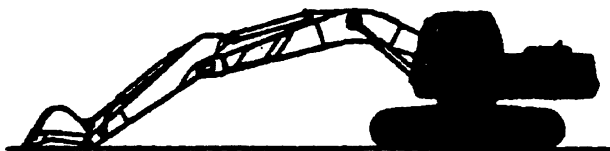

FIGURE 6.25
2. Operate the attachment Controls until the arm, attachment and boom are in the Hydraulic Oil Check Position. See Figure 6.25.